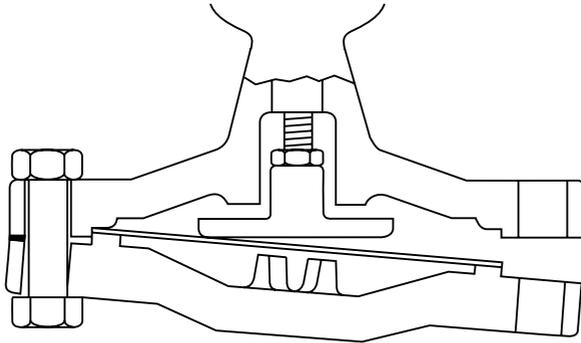

Fig. 6
5. Replace main diaphragm plate and pushrod assembly (**25** and **26**) and loosely refit the lower diaphragm chamber (**22**) on the two bolts either side of the union connection, see Figure 6, so that the spigot is located into the recess. Also ensure that the connecting stainless steel pipework is located into its fitting.